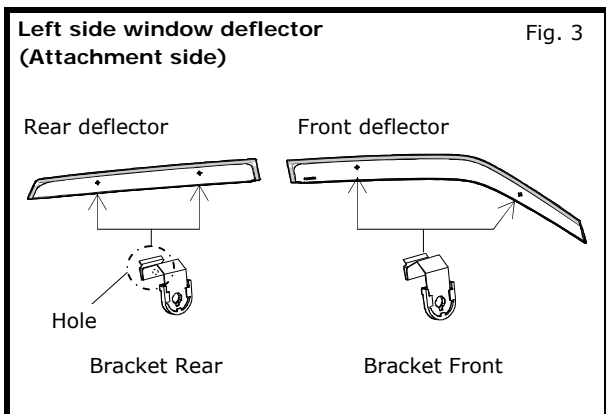
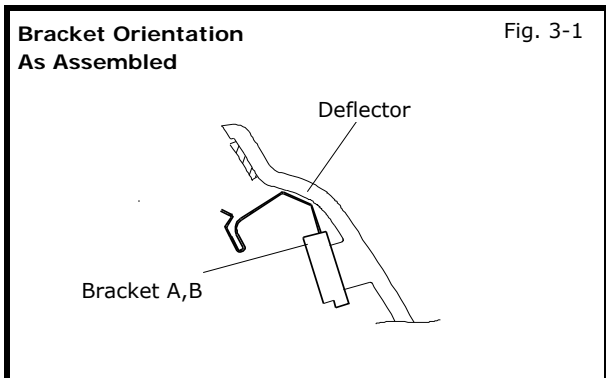

Fig. 3
Fig. 3-1
- 5) Assemble brackets to window deflector by pushing brackets firmly against the boss on backside deflector at marked locations. See Fig. 3 and Fig. 3-1